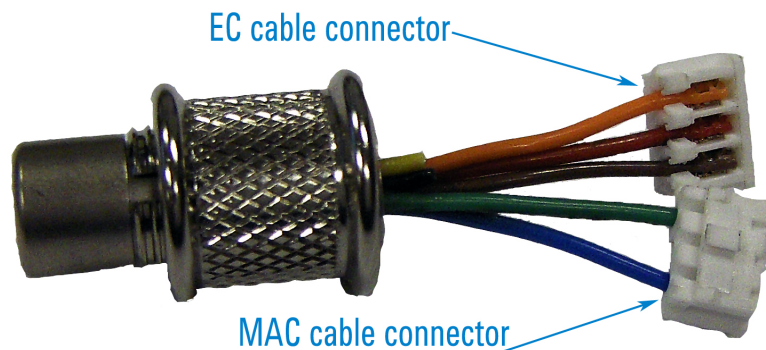

Figure 67 EC/MAC cable
- 5 For certain measurements, you will need to connect the EC/MAC cable (Figure 67) from the sample plate to the socket on the underside of the microscope stand. The 3-pin EC cable provides bias to the sample. The 3-pin MAC connector provides signal to the magnetic coil for MAC Mode.